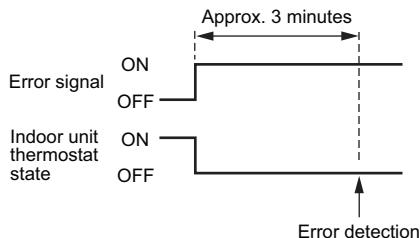

Fig. 5-7
③ Indoor unit operation when error signal input (Fig. 5-7)
④ When error signal ON